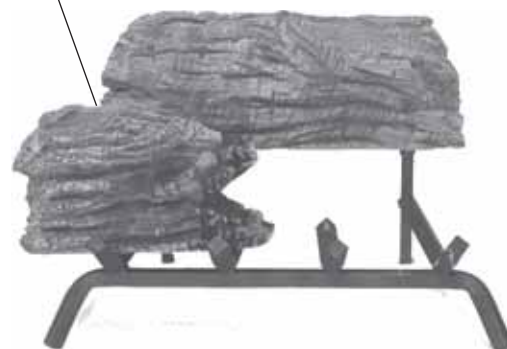

Figure 14 - Placing Front Left Log (#2) on Grate
3. Place front left log #2 on the front of the grate and to the left. *See Figure 14.*